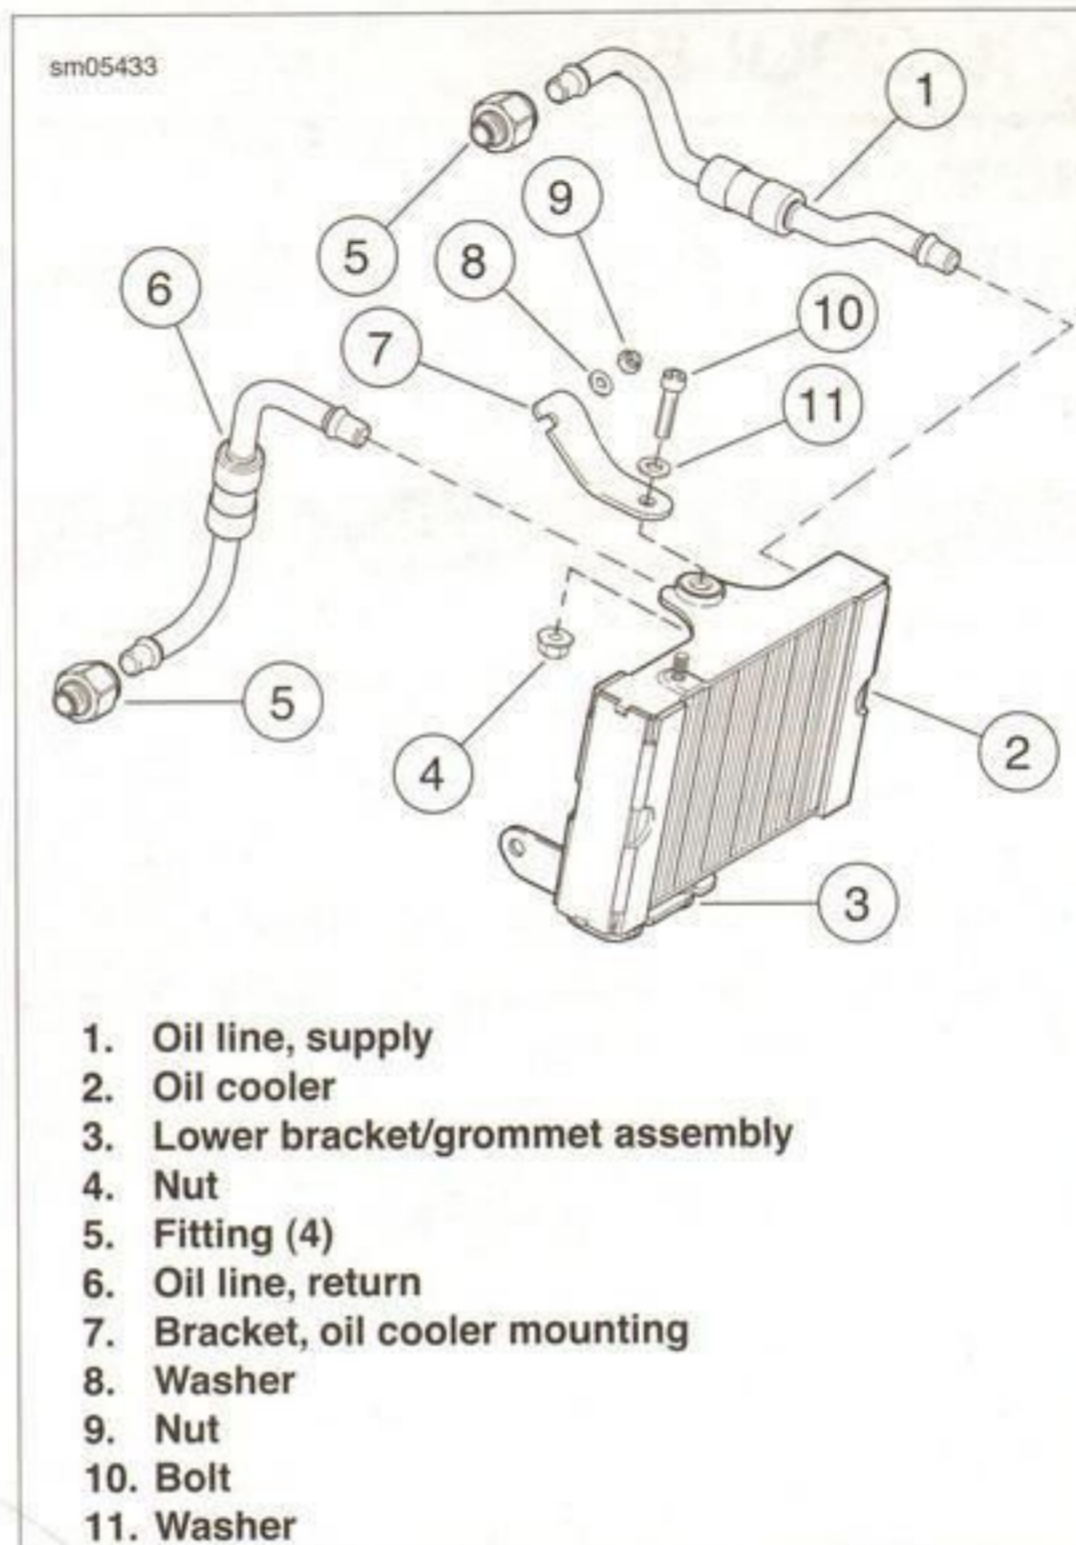

Figure 5-33. Oil Cooler Components
9. See Figure 5-33. Remove nut (9) and washer (8) from top of oil cooler assembly, disconnect bypass bracket and hose.
11. Remove bolt (10) and washer (11) from oil cooler (2).
12. Supporting the oil cooler, pull far enough forward to remove oil cooler from lower bracket/grommet assembly (3) located at bottom of cooler and remove oil cooler from motorcycle.
1. See Figure 5-33. Supporting the oil cooler (2), guide into place in lower bracket/grommet assembly (3). Tip oil cooler into place and retain with washer (11) and bolt (10).
5. See Figure 5-33. Install oil cooler supply line (1) and return line (6).